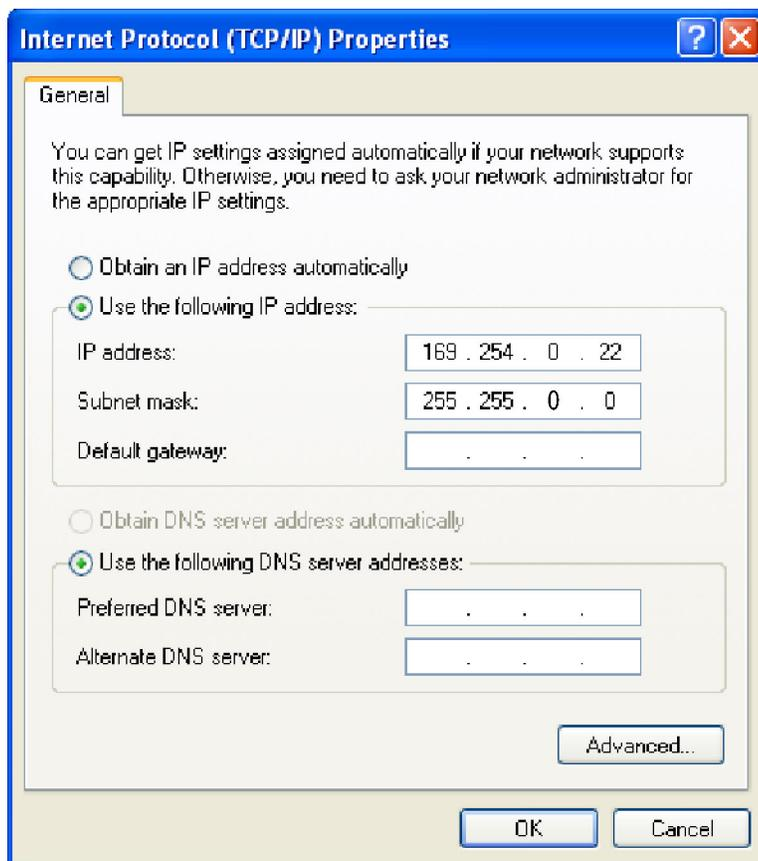

Figure 9: IP Properties dialog box
3. Scroll down the list and select **Internet Protocol (TCP/IP)**; then click **Properties**. The Internet Protocol (TCP/IP) Properties dialog appears. (See Figure 9.)